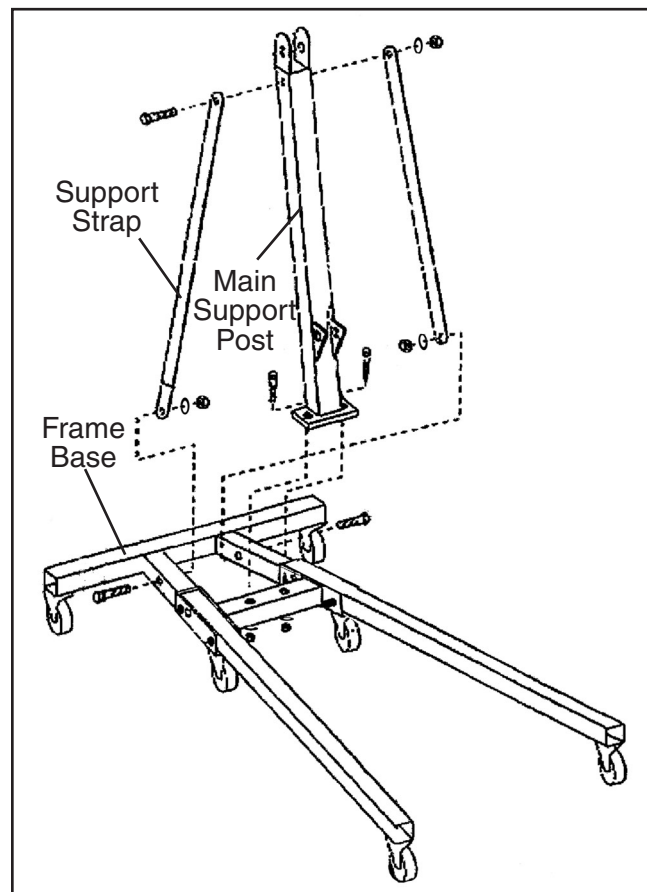

Figure 5. Main support assembly.
2. Position the main support post onto the base **(Figure 5)**, and secure it in place with two M14-2 x 100 hex bolts, washers, and nuts.
3. Install both support straps on the main support post **(Figure 5)** with two M16-2 x 120 hex bolts, washers, and nuts.
4. Connect both support straps to the frame base **(Figure 5)** with two M14-2 x 110 hex bolts, washers, and nuts.